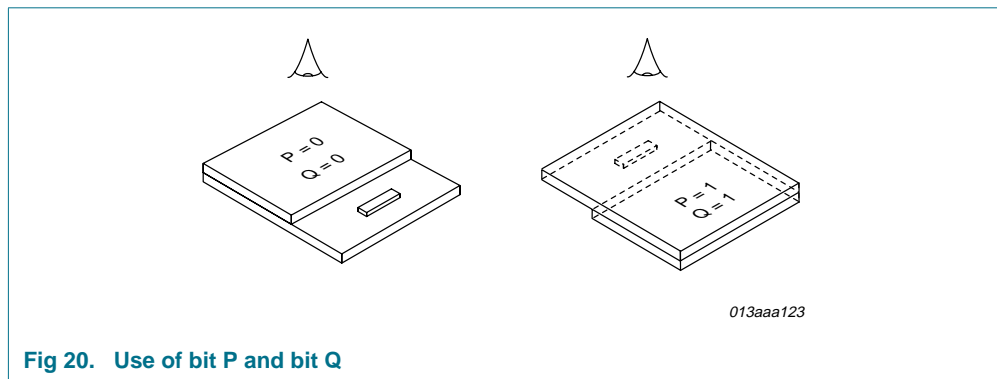

Fig 20. Use of bit P and bit Q
**Combination of bit P and bit Q:** A combination of P and Q allows the display to be rotated horizontally and vertically by 180 degree, as shown in Figure 20. This is useful for viewing the display from the opposite edge.